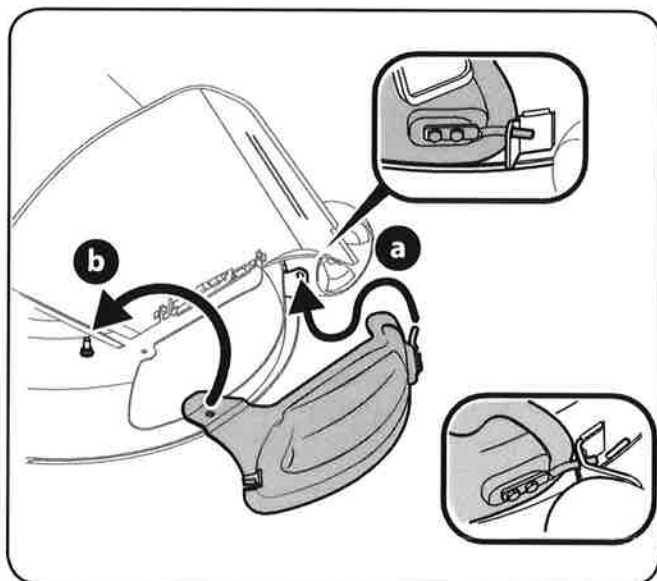

Figure 1-4
2. To install the mulch plug, pivot the discharge chute upward. Refer to Figure 1-4: